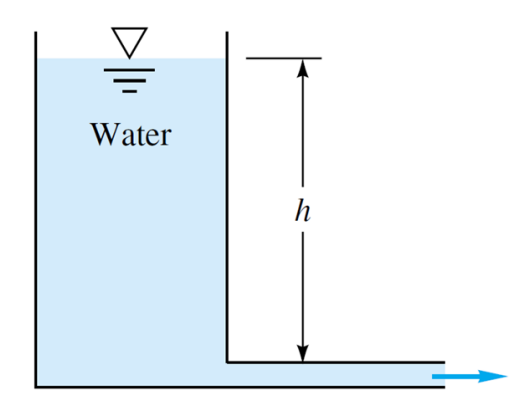

Figure 4
4. A pipe with 20 cm diameter and length of 100 m is connected to a water tank, as shown in Figure 4. Water level in the tank is 5 m height. Density of water is  $1000 \text{ kg/m}^3$ .